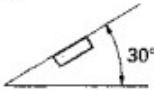

Fig. 10
- If installation angle exceeds 30° from horizontal, the unit might not give its optimum performance. (Fig. 10)